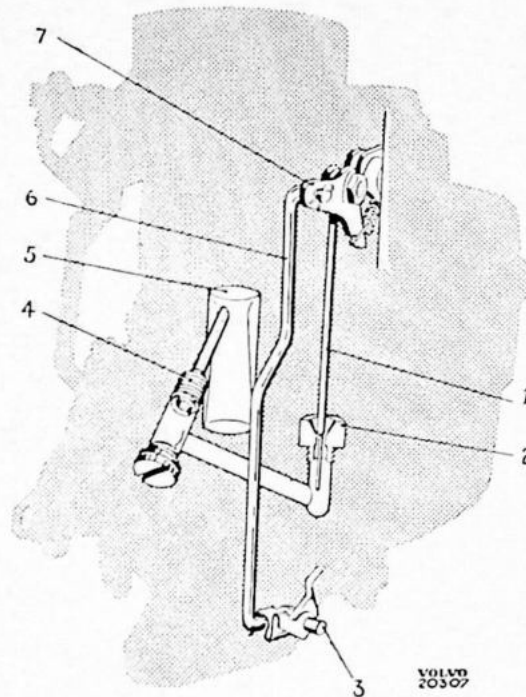

Fig. 11. High-speed system.
The high-speed system, Fig. 11, becomes operative at higher revs, and when the engine is loaded. The fuel is discharged into the air stream through the main nozzle (4) debouching in the venturi (5).